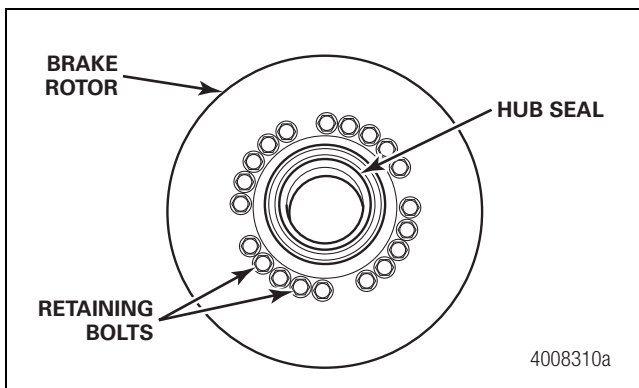

Figure 5.12
1. If equipped, remove the rotor mounting bolts and remove the rotor from the hub. Figure 5.12.